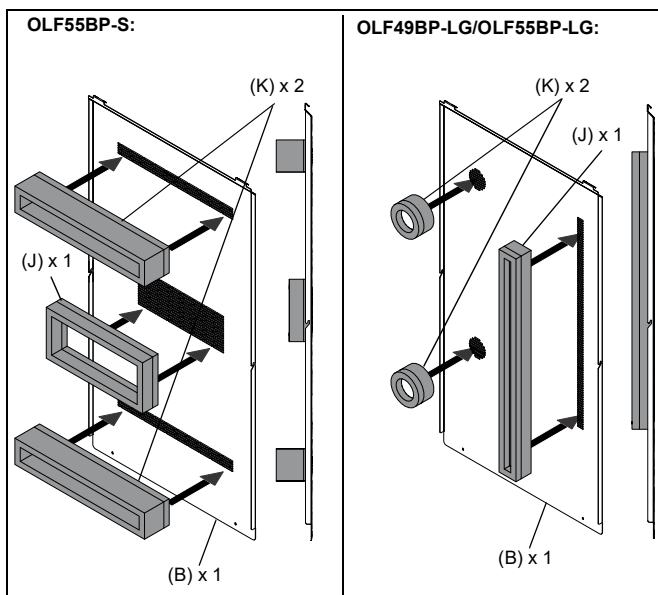

Figure 18
- Remove adhesive covers from one exhaust baffle (J) and two intake baffles (K), then attach to the inside of the rear bezel (B) around the openings in the panel. (See Figure 18)